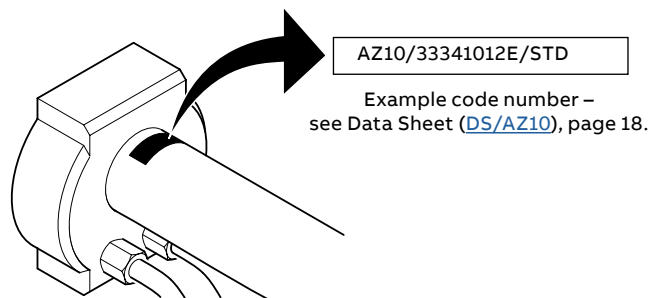

Figure 1 Location of probe label
- Before installing the probe, check the probe data and alteration labels on the head of the probe – see Figure 1.